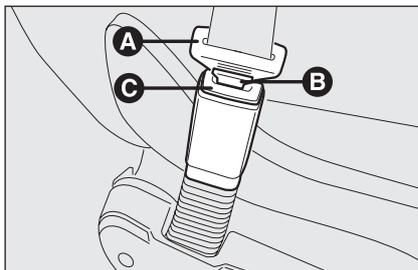

fig. 1
### USING THE SEAT BELTS fig. 1
*Never press button C-fig. 1 when travelling.*